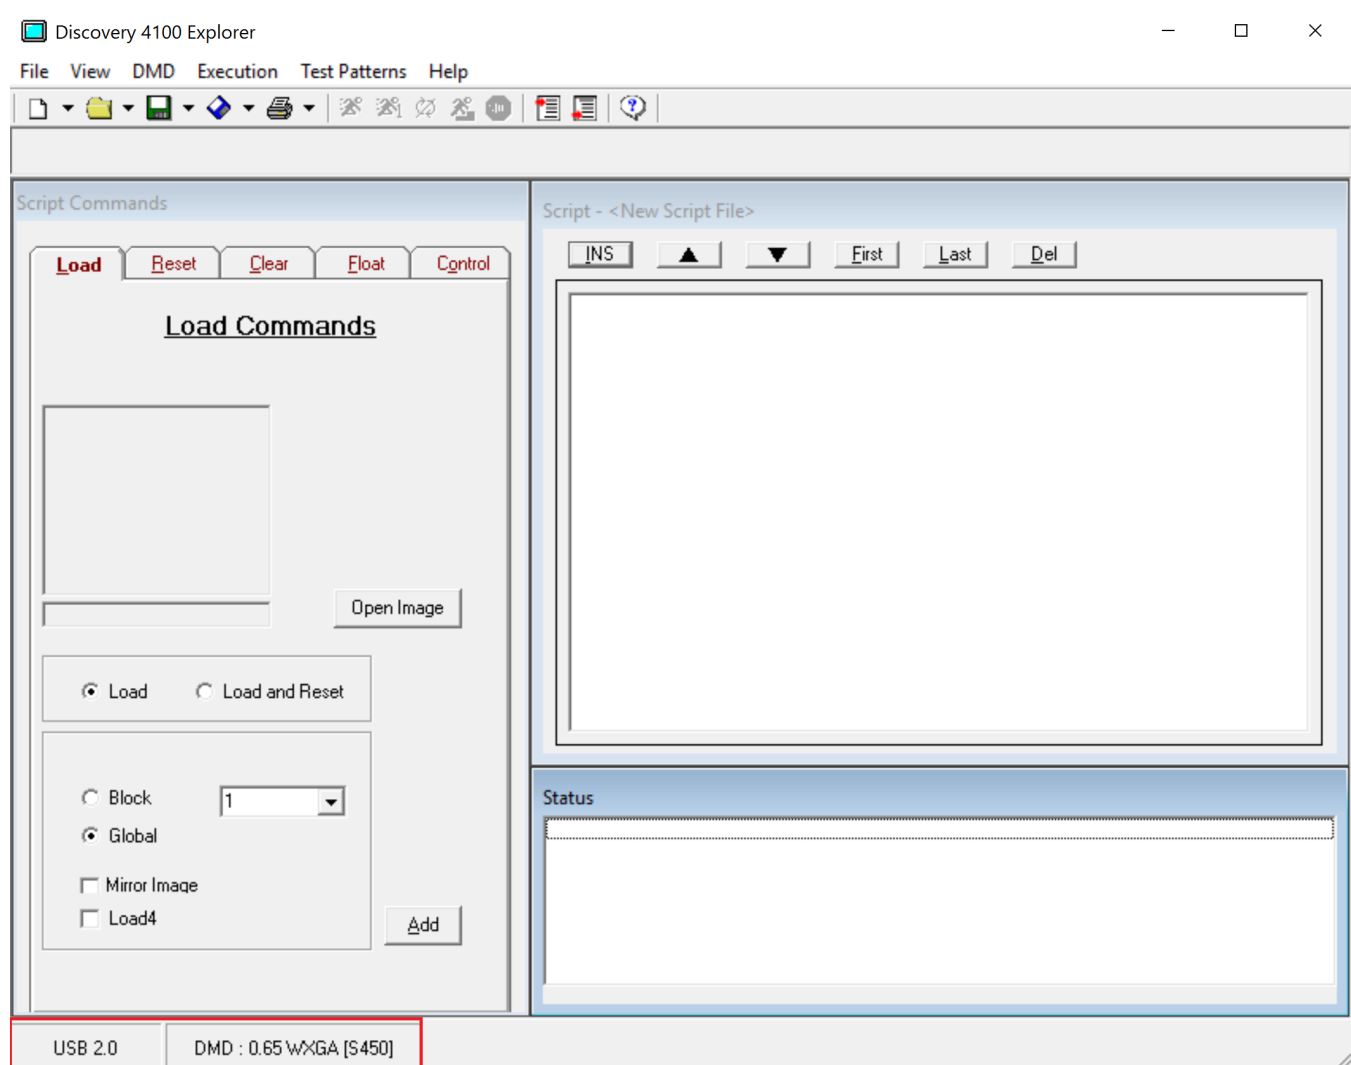

Figure 3-11. Discovery 4100 Explorer USB and DMD - Connection Status
17. The software will start. The USB connection status and DMD type should be displayed in the lower left status panel (Figure 3-11):